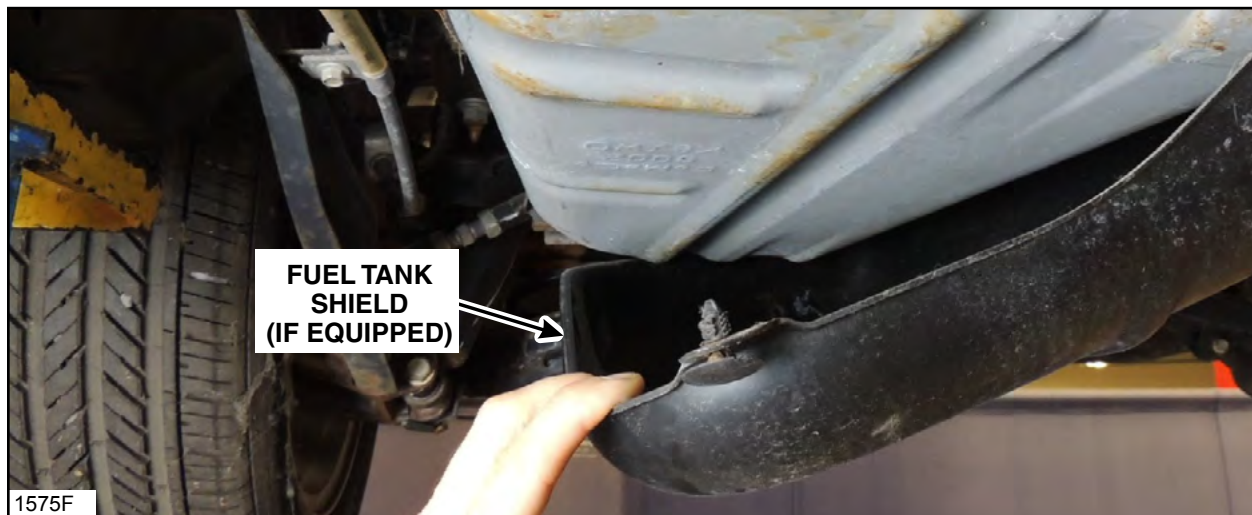

FIGURE 1
- **AWD Vehicles Only** - Fuel tanks come equipped with a plastic shield covering the tank. See Figure 1.